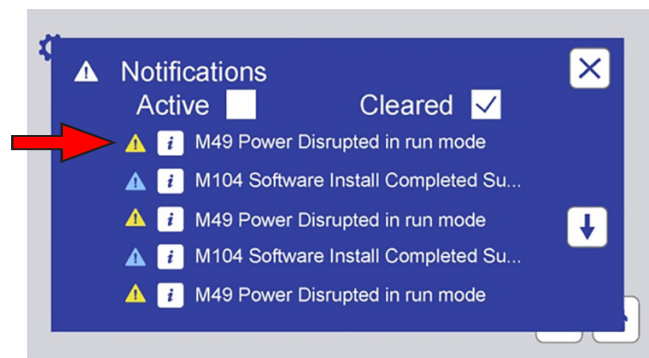

Figure 10.4b: The Notifications Screen lists notification information.
- The type, information icon, identification code (ex. M49), and name are displayed for each notification (Figure 10.4b).